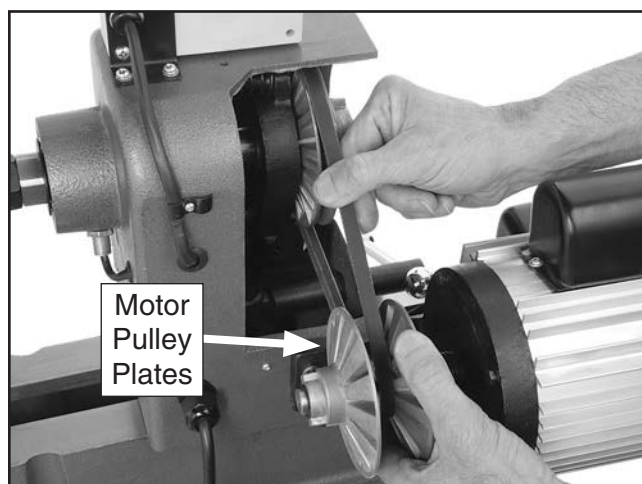

Figure 51. Replacing the V-belt.
3. Pull the motor pulley plates apart so that the V-belt slips down to the motor arbor, as shown in **Figure 51**. This will decrease the V-belt tension.